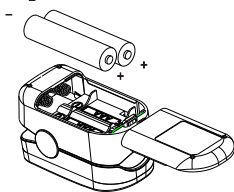

Figure 3. Battery Installation
- B. Push the battery cover horizontally along the arrow shown as figure 3.